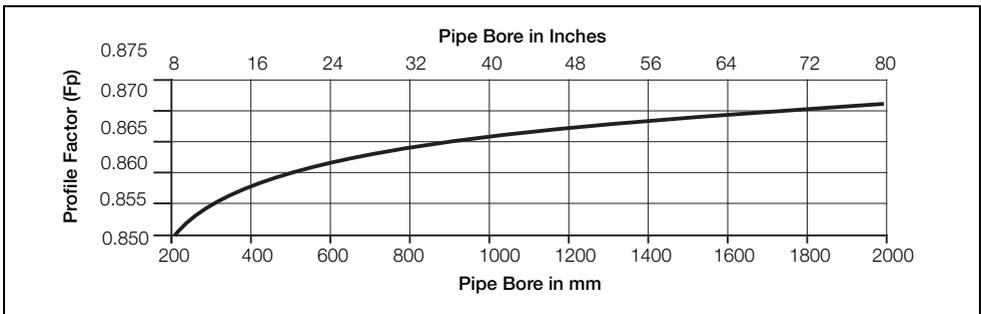

Fig. 5.1 Profile Factor vs Velocity for Pipe Sizes 200 to 2000 mm (8 in to 80 in.)
2. Determine the profile factor  $F_p$  from Fig.5.1.
$F_p = 0.861$  (derived from Fig. 5.1)